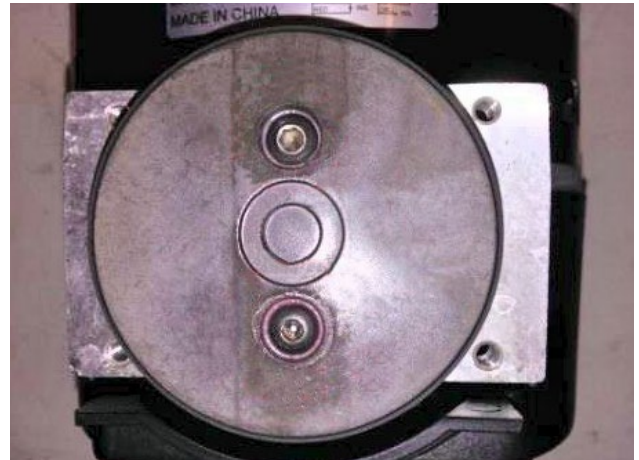

Fig. 5
- 8 Remove the retainer plate (1/8" Allen head, two screws), the piston cup, and the cylinder. (Fig. 5)